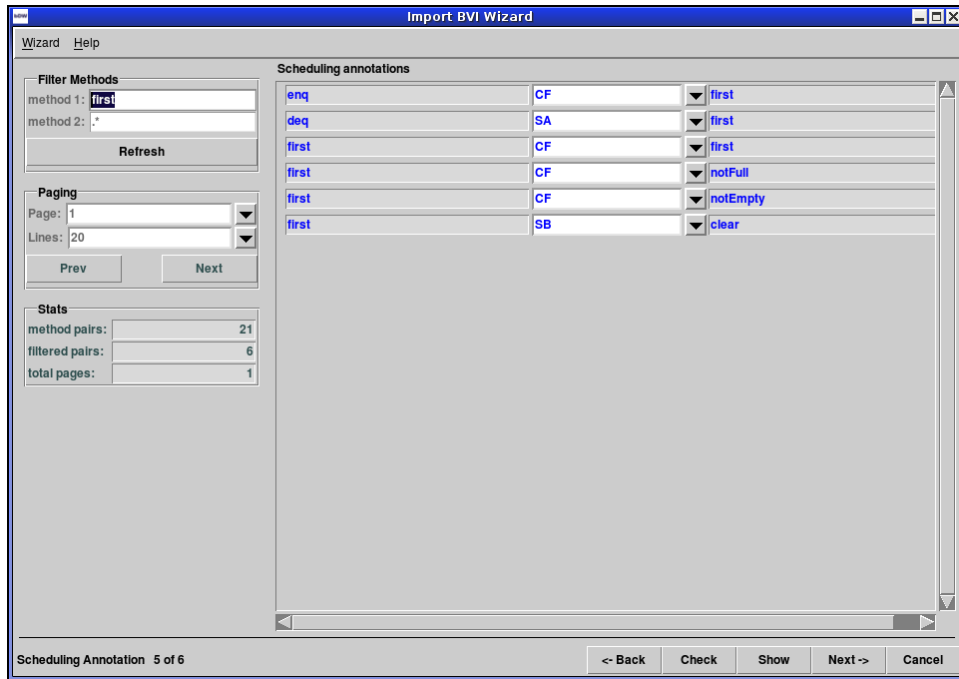

Figure 32: Step 5: Scheduling Annotations
Step 5 of the wizard, shown in Figure 32, defines the scheduling constraints between the methods of the module, as specified by the **schedule** statements.